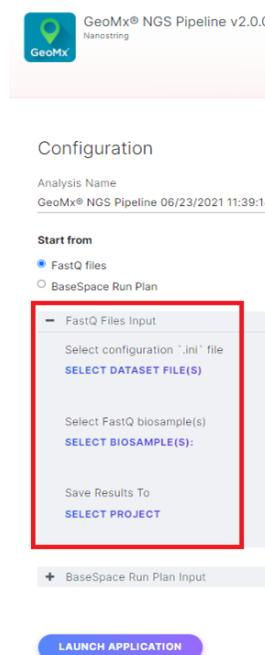

Figure 16: Choose file inputs
4. Choose the **Start From: FASTQ files** option (see Figure 16). Under **FASTQ Files Input**, choose the configuration (.ini) file, FASTQ files, and an output project.